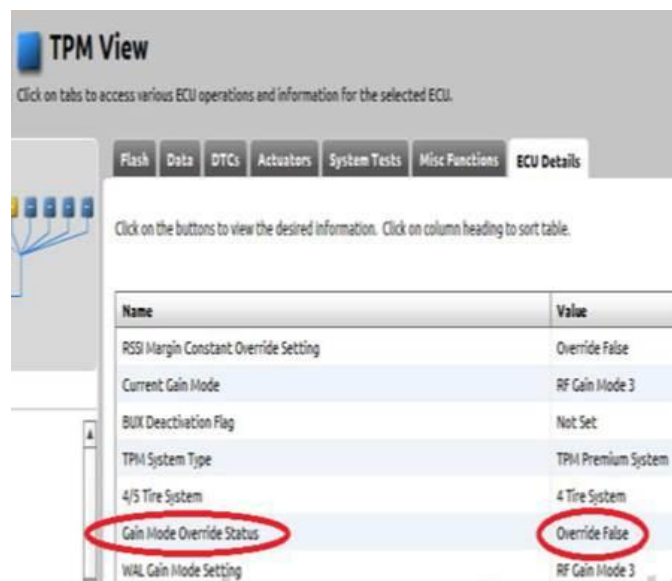

Fig. 1 Screen Shot of wiTECH.
2. Click on the TPM module, than ECU details and look at the “Gain Mode Override Status” value, as seen in (Fig. 1)